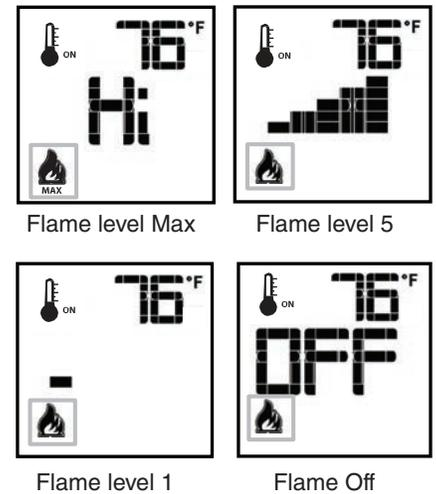

Figure 9: Flame level control.
The Proflame 2 has six (6) flame levels. With the fireplace turned on, and the flame level at maximum height, press the down arrow key once (Figure 9) to reduce the flame height by one step until the flame is turned off.